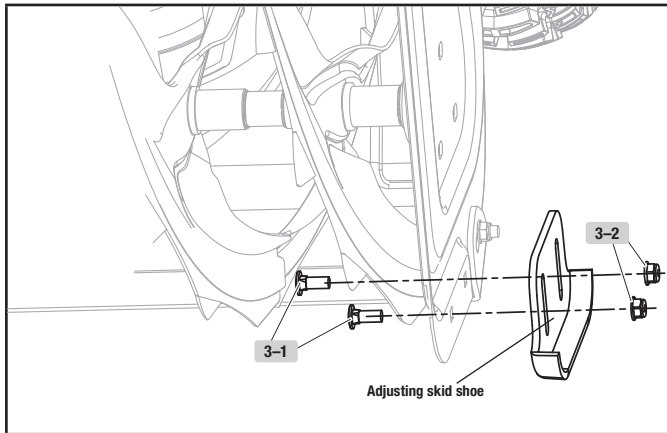

Figure 3
3. Attach adjustable skid shoes to auger housing. Insert bolts (3-1) through the auger housing then through the shoe. Tighten nuts (3-2) tightly (Fig. 3). Do not overtighten. The shoe is not reversible. See "Adjusting the Snow Shoes" section.